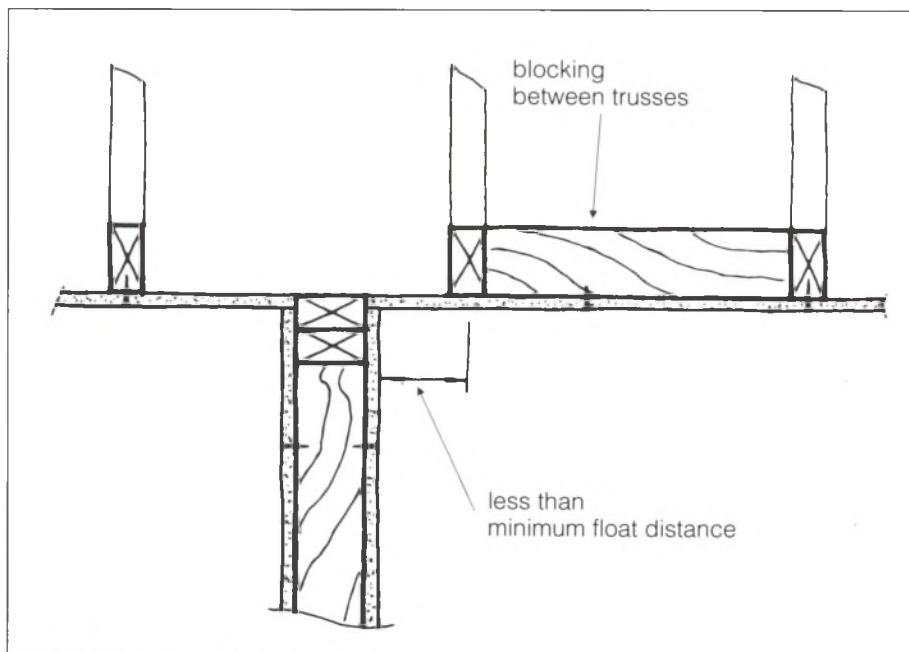

Fig. 10. Partition parallel to trusses
- Where partitions run parallel to roof trusses, and where trusses are too close to the partition to permit floating, provide blocking between trusses (fig. 10) or use strapping.